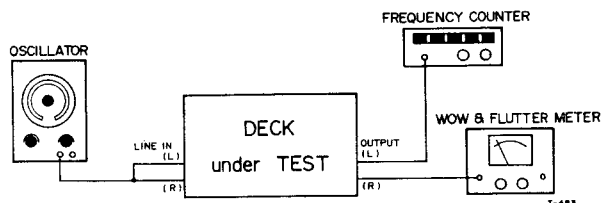

Fig. 7-10 Test Connections for Wow/Flutter and Tape Speed Test
The tape speed should be measured using TEAC flutter free tape, Model YTT-2003 (7-1/2 ips) and YTT-2004 (15 ips). These tapes contain a highly accurate 3,000 Hz tone. Connect a digital frequency counter to either line OUTPUT jack. See Fig. 7-10. The indicated frequency should be 3,000 Hz ( $\pm 30$  Hz) for all speeds during playback of the tape.
1. Connect Test equipment to the deck as shown Fig. 7-10. (Except oscillator).
1. Connect Test equipment to the deck as shown Fig. 7-10.